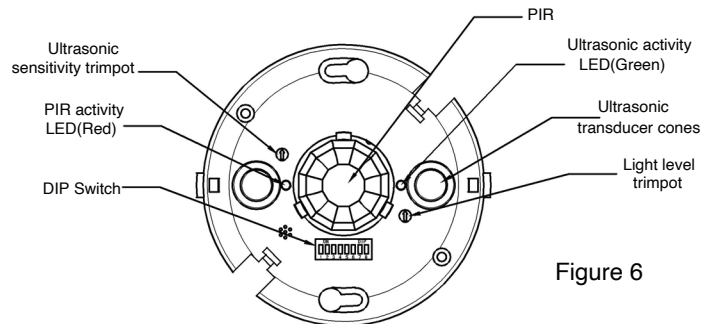

Figure 6
7. Snap the front cover onto the sensor(see Figure 6).